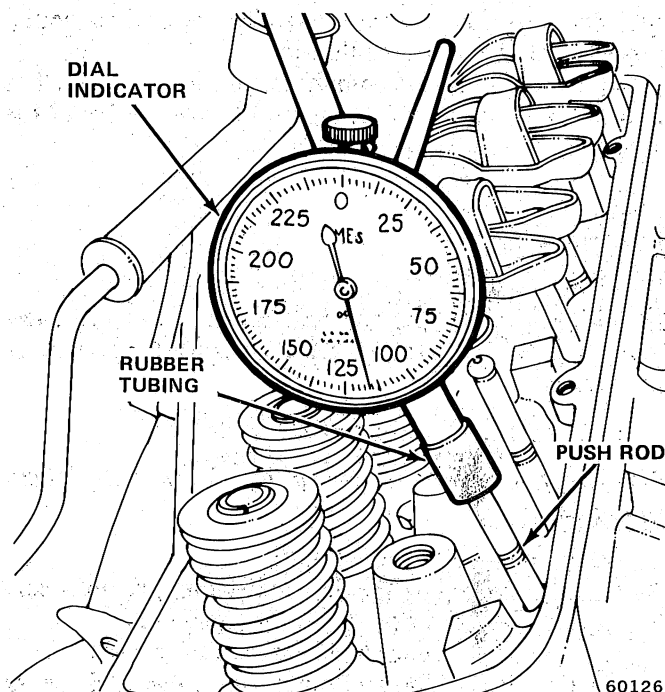

Fig. 1B-111 Cam Lobe Lift Measurement
- (1) Remove cylinder head cover and gasket.
- (2) Remove bridge and pivot assemblies and rocker arms. Alternately loosen capscrews one turn at a time to avoid damaging bridge.
- (3) Remove spark plugs.
- (4) Use piece of rubber tubing to secure dial indicator on end of push rod (fig. 1B-111).